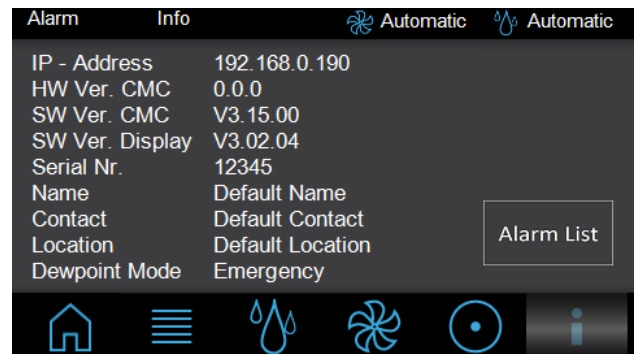

Fig. 104: "Info" screen
- Enter the serial number using the number pad keys. The serial number is displayed on the "Info" screen (fig. 104) under the "Serial No." entry.